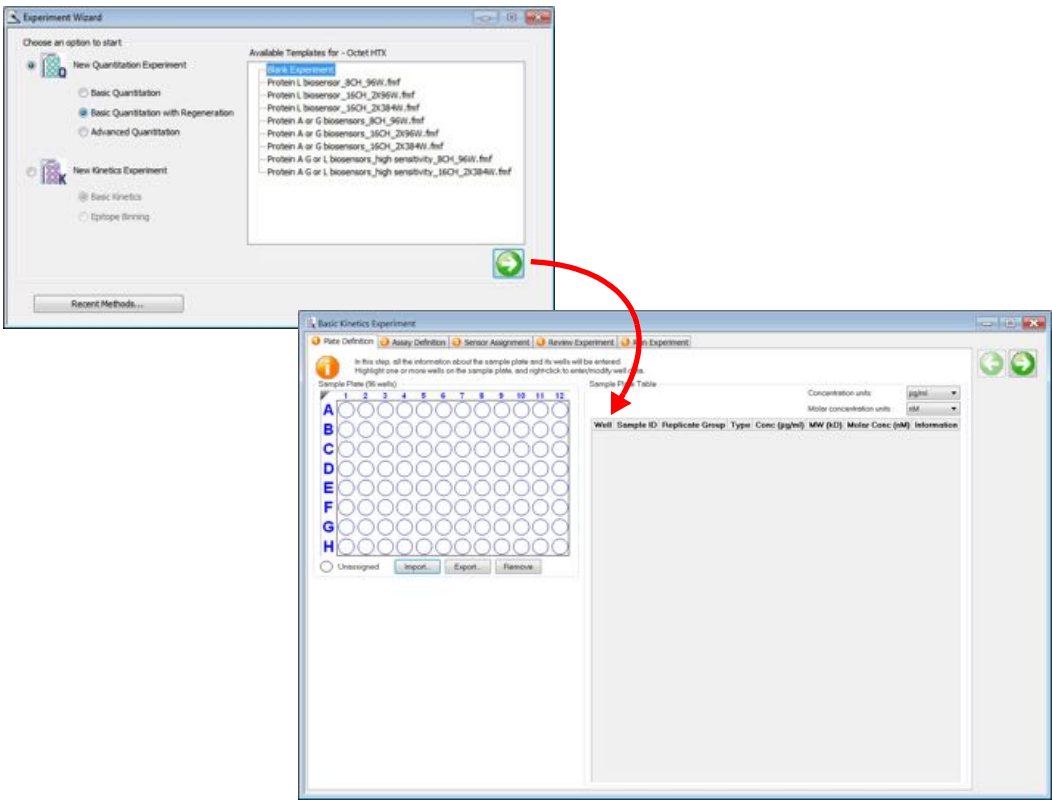

Figure 9-1: Starting a Kinetics Experiment with the Experiment Wizard
2. In the **Experiment Wizard**, click **New Kinetics Experiment** (see Figure 9-1, left).
4. Click the arrow button () . The **Basic Kinetics Experiment** window displays (Figure 9-1, right).